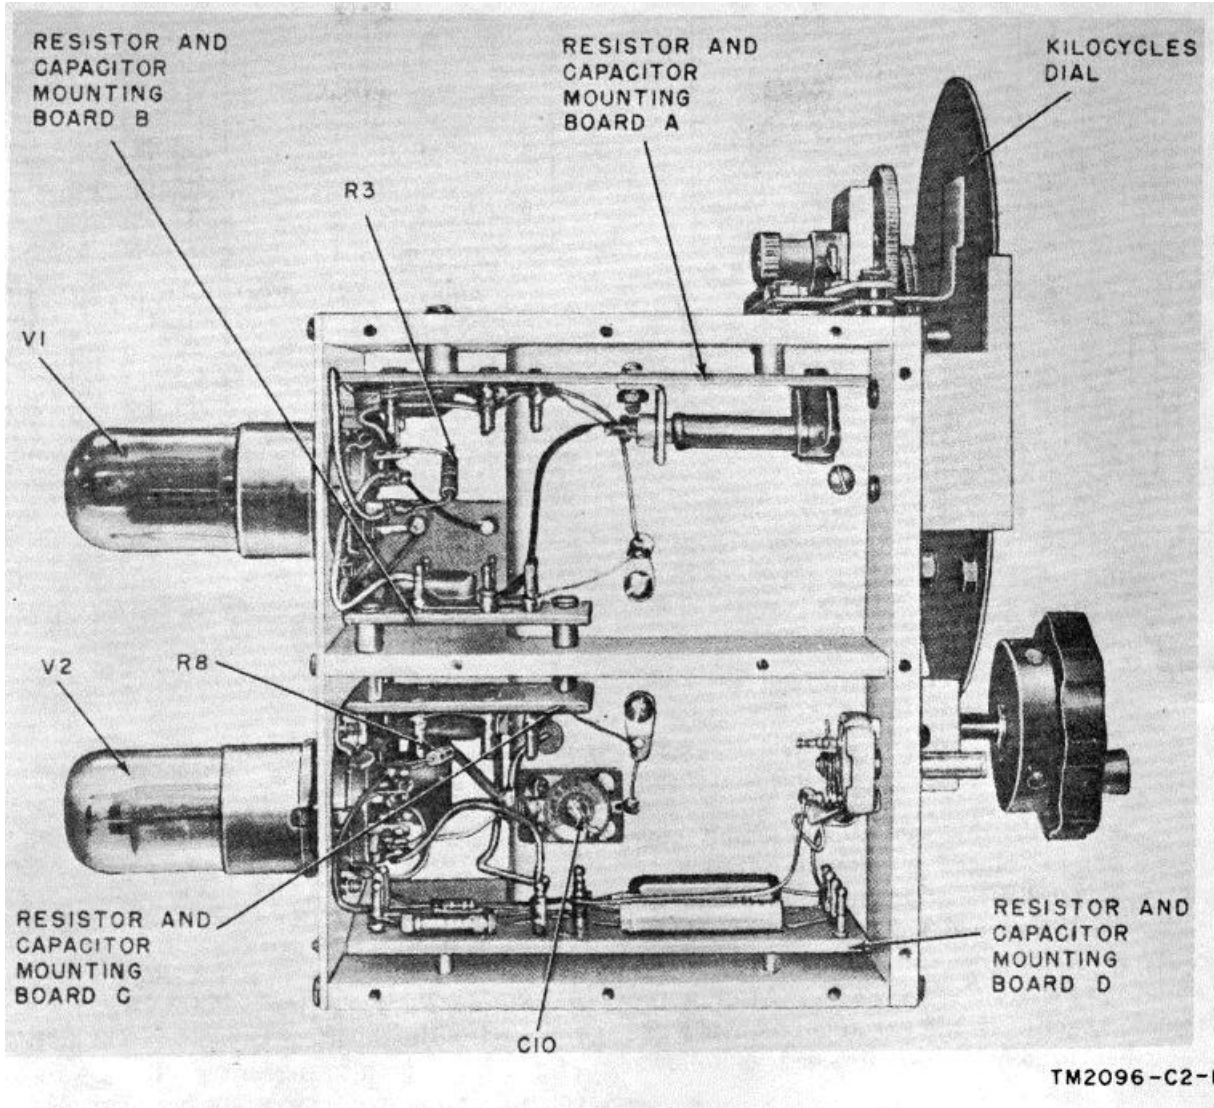

Figure 7-11. Signal Generator SG-15/PCM, top view of oscillator assembly showing location of parts.
- (1) Set ZERO BEAT ADJ control C11 to its midposition.
- (2) Set the FREQUENCY control so that the KILOCYCLES dial indicates 0.
- (3) Adjust capacitor C10 (fig. 7-11) so that the variable-frequency oscillator is at zero beat with the fixed-frequency oscillator when the oscillator assembly cover is in place.
- (4) Advance the FREQUENCY control until the KILOCYCLES dial indicates 35 kc with the oscillator assembly cover in place; check the frequency at OUTPUT terminals E1 and E2 with Frequency Meter AN/TSM-16.